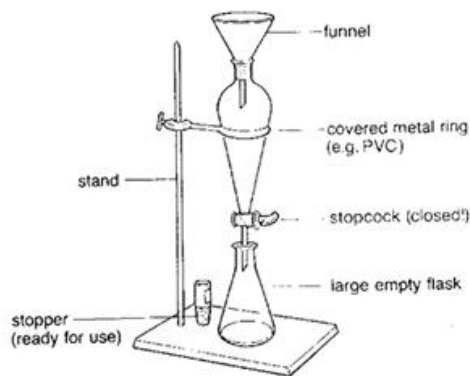

Figure 1: Separatory Funnel Set-up
1. Acquire a 125 ml separatory funnel and stopper. Attach a ring clamp to a ring stand and place the separatory funnel in the ring as shown in Figure 1. (large empty flask may also be a beaker).
3. Verify that the stopcock on the separatory funnel is closed. Place your short-stemmed glass funnel in the separatory funnel as shown in Fig. 1. Pour the stock solution into the separatory funnel.
Figure 1 available 11/4/2018 at: